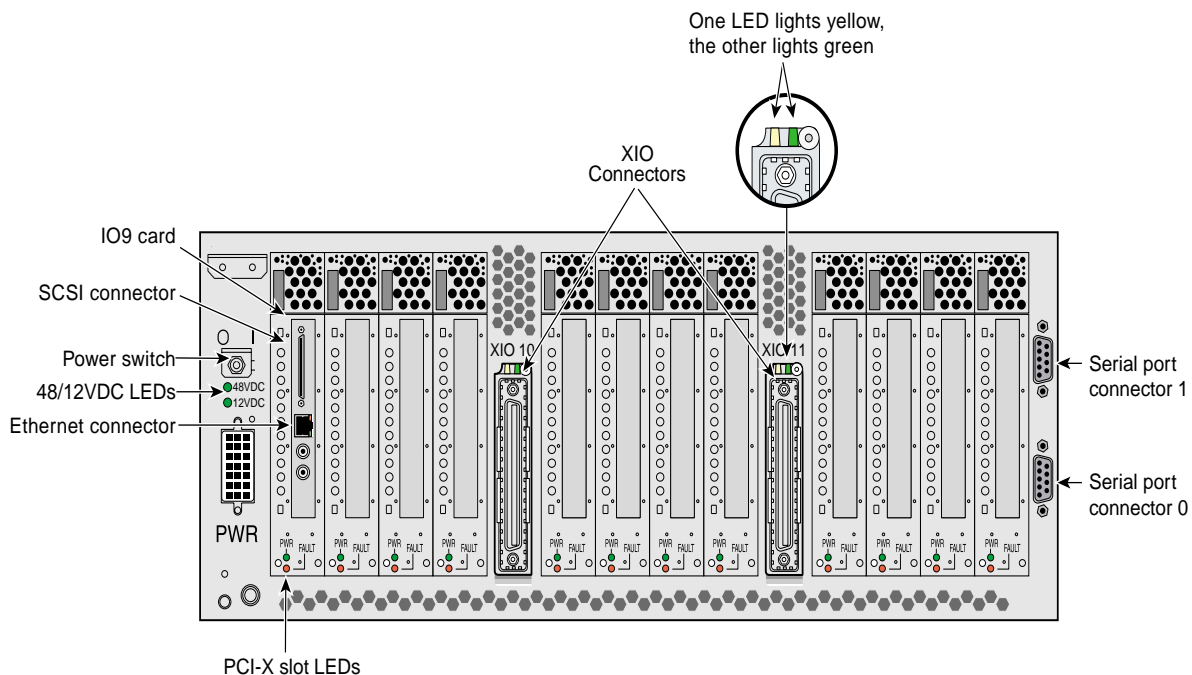

Figure 6-4 Rear Panel of IX-brick
Also important to the IX-brick architecture is the base I/O PCI card. This card contains logic that controls the DVD-ROM and internal system disk drives, and it provides the following connectors (see Figure 6-4):
The IX-brick has the following rear panel components (see Figure 6-4):
- **PCI-X slots.** These slots seat the PCI cards. See “Adding or Replacing a PCI or PCI-X Card” on page 136. The card slots are numbered bus 1 through bus 6. Each bus has two slots, labeled 1 and 2, as shown in Figure 6-4.